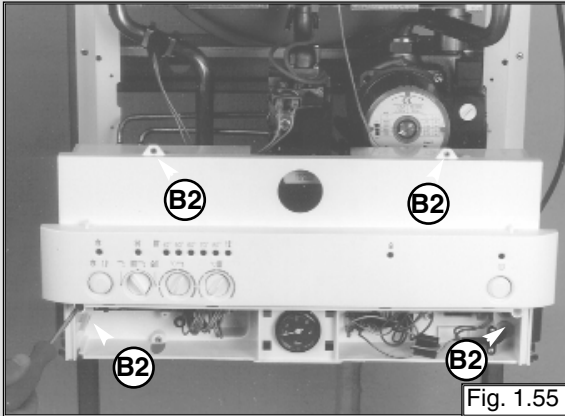

Fig. 1.55
5. Remove the mounting screws "B2" (see fig. 1.55);